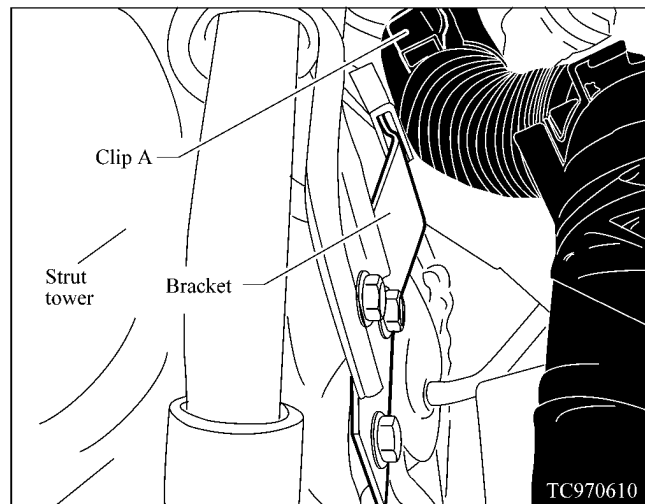

Figure 4
3. Remove the bracket for clip A from the strut tower (see Figure 4).